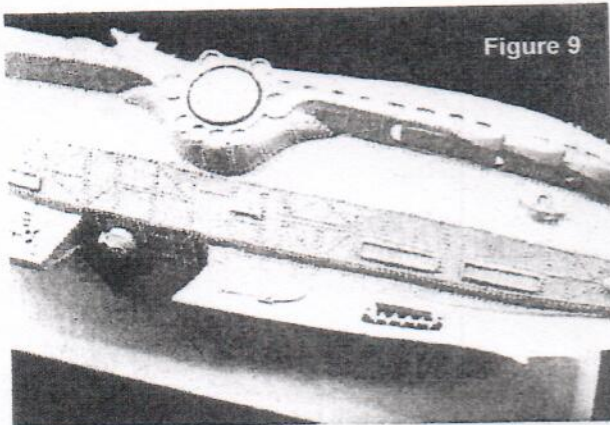
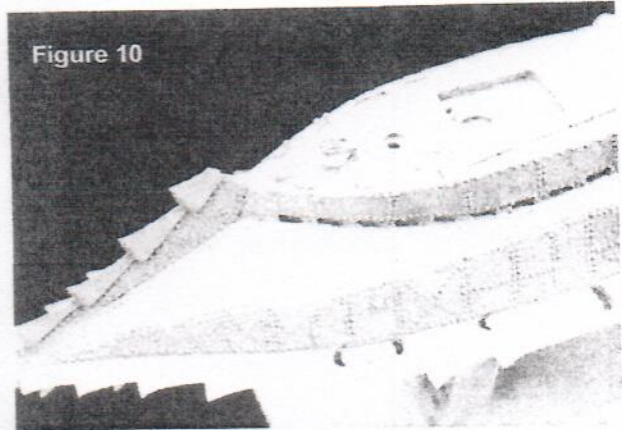

Figure 9
Figure 10
7. Figure 9 shows the installation of the white metal speed screw, into the lower forward raker arch compartment. Make sure to carefully file and trim this area for a proper snug fit. Figure 10 shows the placement of the forward hatch wheel. Drill and place the tiny pins provided into the centers of the hatch wheels to keep the connected to the hatch.